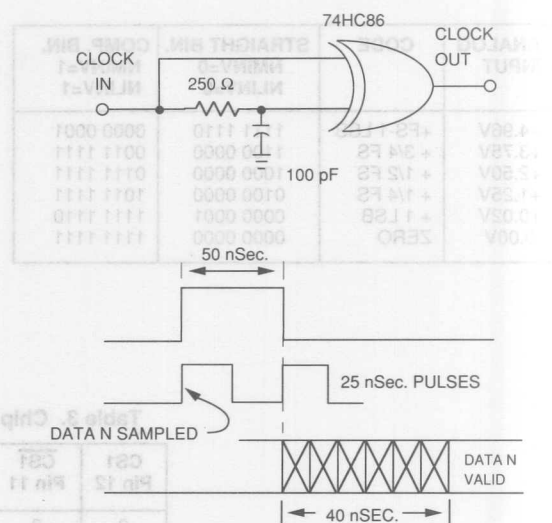

Figure 2. Single Clock Pulse Circuit and Operation
4. Single conversions (one-shot mode) would require another clock edge to read out data. Users desiring to provide just a single clock pulse could use the circuit shown in Figure 2 to obtain the data.